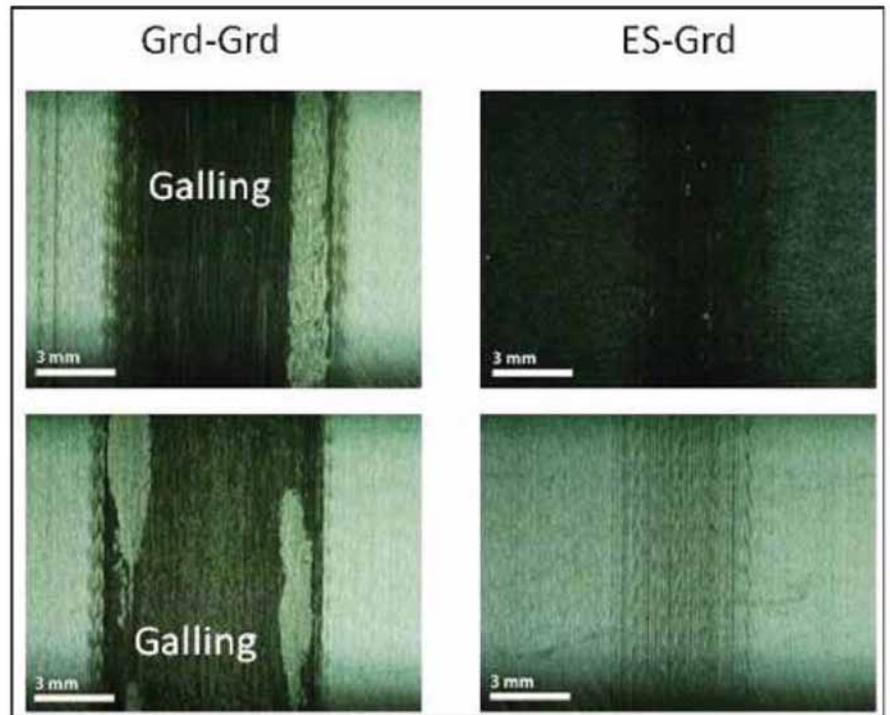

Figure 6—Smearing wear testing of ground steel surfaces against steel and ES-treated surfaces.
Timken's engineered surface (ES) to inhibit smearing or scuffing-type wear. In this test, two highly loaded steel rings were placed into contact with 150% slide/roll ratio and the lubricant entrainment velocity was reduced in stages until a spike in the frictional torque was observed. In one experiment untreated steel rings were used; in the other, a steel ring with an engineered surface was run against an as-ground ring. Images of the ring pairs are displayed (Fig. 6).